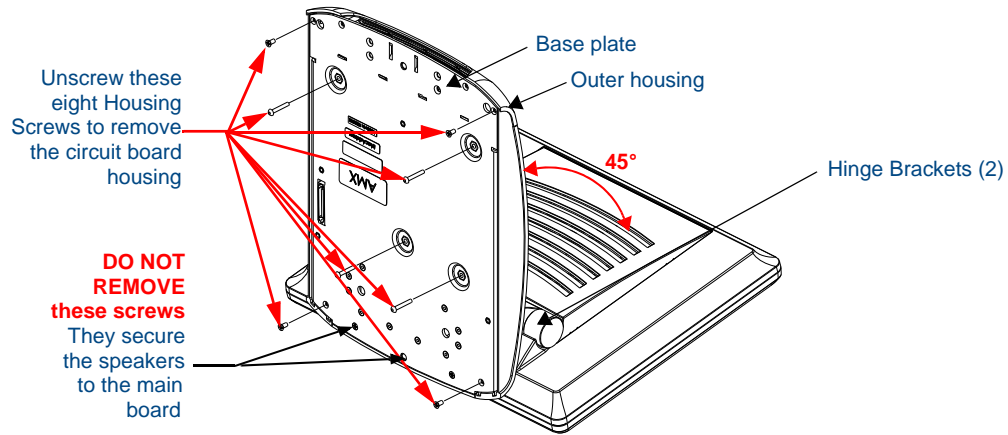

FIG. 17 Location of the attachment screws underneath an NXT panel base
1. Carefully detach all connectors from the rear of the touch panel and then gently place the touch panel LCD facedown onto a soft cloth to expose the under-side of the base (FIG. 17). This step helps prevent scratching of the LCD.
3. With the components securely installed, tilt the LCD back to a 45° and gently slide-on the outer housing (towards the LCD) until the it is aligned over the installation holes and the tilt bracket prevents any further forward movement (FIG. 17).
6. Insert and secure the eight Housing Screws (using a grounded Phillips-head screwdriver) into their respective locations (FIG. 17).